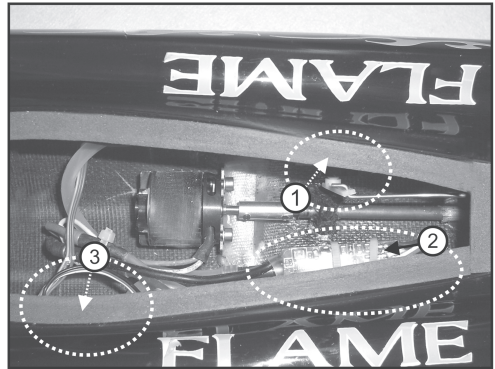

Figure 2
- Figure 2 shows the steering servo (1) and the speed controller (2), as well as a possible installation site for the receiver (3).